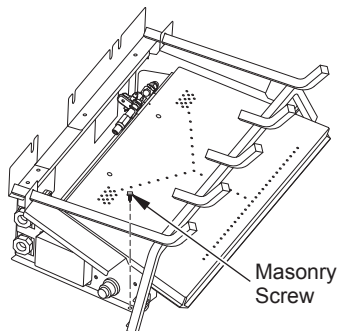

Figure 12 - Attaching Heater Base to Fireplace Floor
2. Mark screw locations through holes in mounting brackets (see Figure 12). If installing in a brick-bottom fireplace, mark screw locations in mortar joint of bricks.
5. Attach base assembly to fireplace floor using two masonry screws provided in hardware package (see Figure 12).